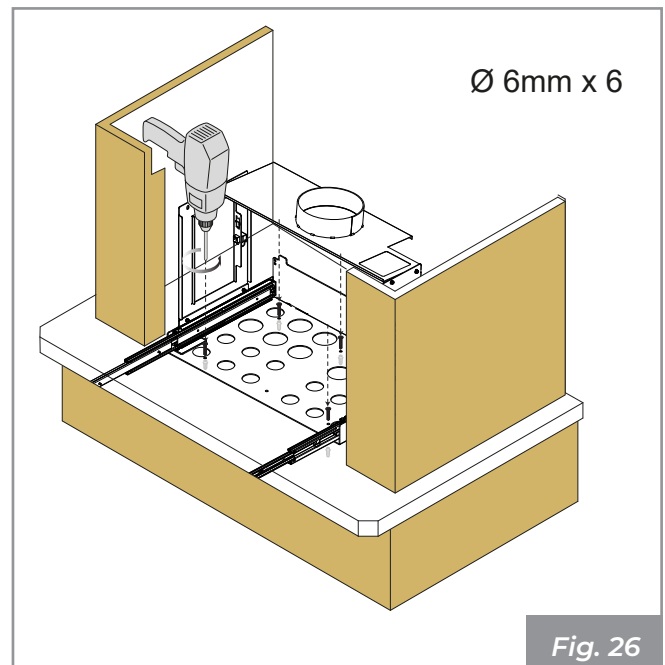

Fig. 26
- Insert 6 mm anchor plugs into the holes and secure the base using the screws (not supplied). (3) - (**Fig. 26**).